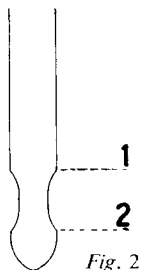

Fig. 2
The dip stick is situated on the left hand side of the engine, rear of the petrol pump and below the carburettor. The indicating end of the dip stick is shown in fig. 2 and the oil should be level with the top of the notch (1) but not above it. The space between the top of the notch (1) and the bottom of the notch (2) corresponds to $1\frac{3}{4}$ pints, approximately.